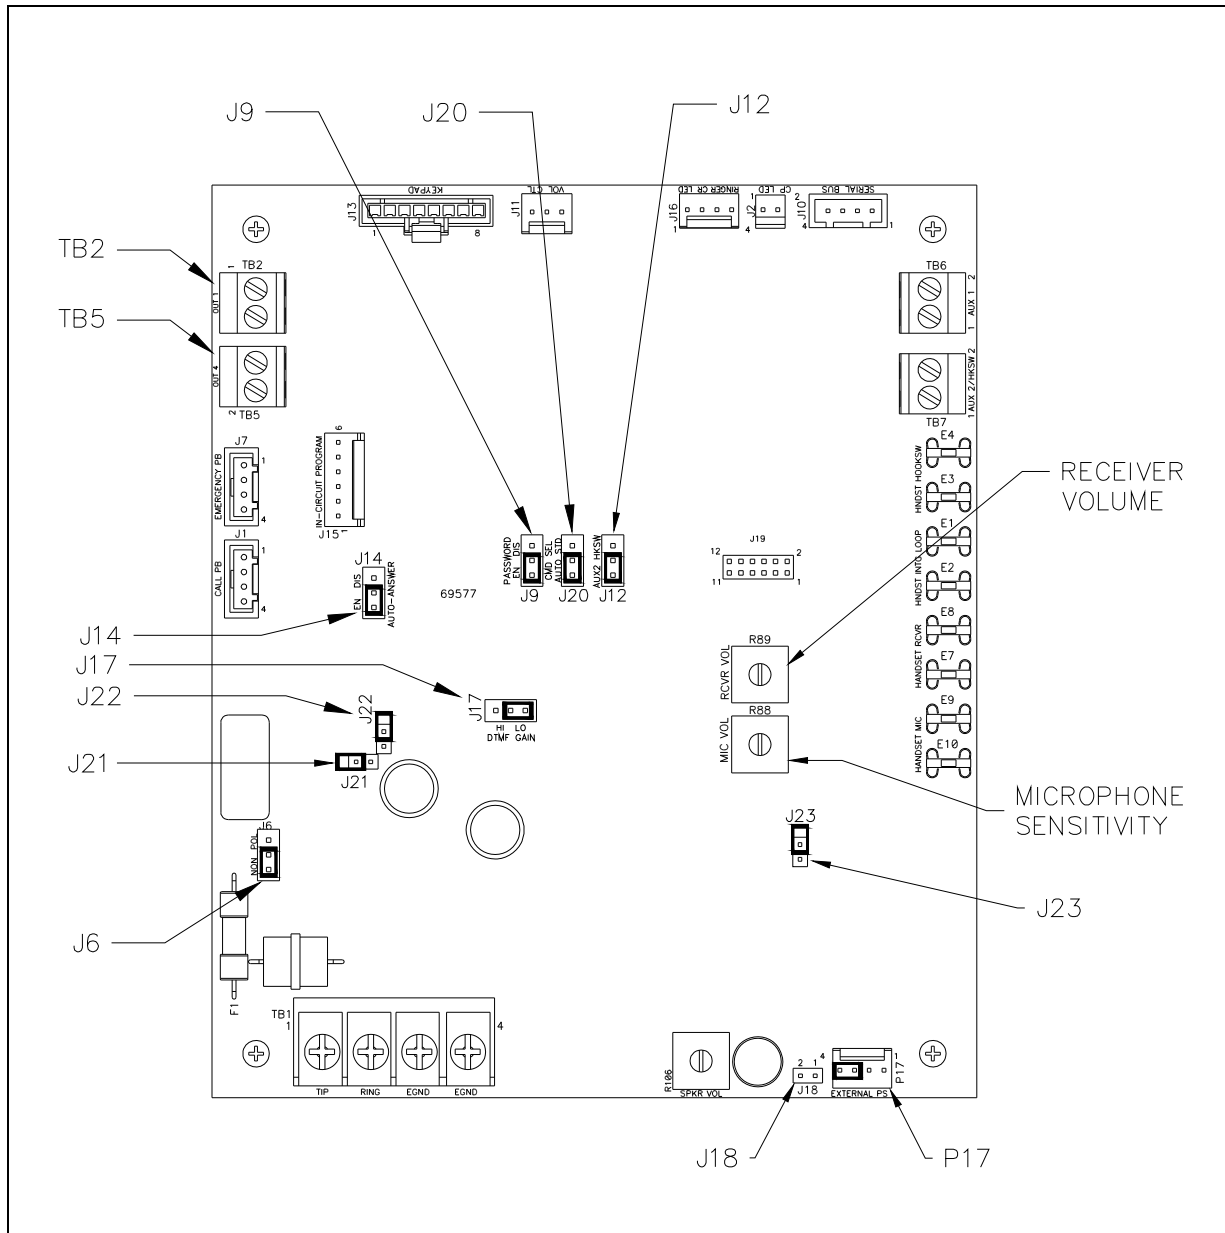

Figure 13. SMART Telephone PCBA
- Adjust the audio levels, if necessary. Refer to Figure 13 for Receiver Volume and Microphone Sensitivity potentiometer locations.
The hardware configuration options are explained in detail in the following sections and the necessary jumper settings are identified to enable or disable each option. Reading the following sections, recording the desired parameters, making the necessary changes, and making a record of your settings is recommended. The following options are controlled by specific hardware configurations. See Figure 13 on page 23 for the jumper locations.
The group of five available volume levels can be shifted with the handset receiver potentiometer R89. Refer to Figure 13. If adjustment is desired, adjust R89 while the ambient noise level is low (and prior to securing the front panel assembly).
The handset microphone sensitivity can be changed with the Mic Vol potentiometer R88. Refer to Figure 13. If adjustment is desired, adjust R88 prior to securing the front panel assembly.
Each telephone includes two isolated solid state switches capable of switching a maximum of 48 V dc, 125 mA or 28 VRMS ac, 80RMS mA. TB2 (OUT1) and TB5 (OUT4) on the SMART Telephone PCBA provide the connections for the auxiliary outputs. Refer to Figure 13 for the location of TB2 and TB5.